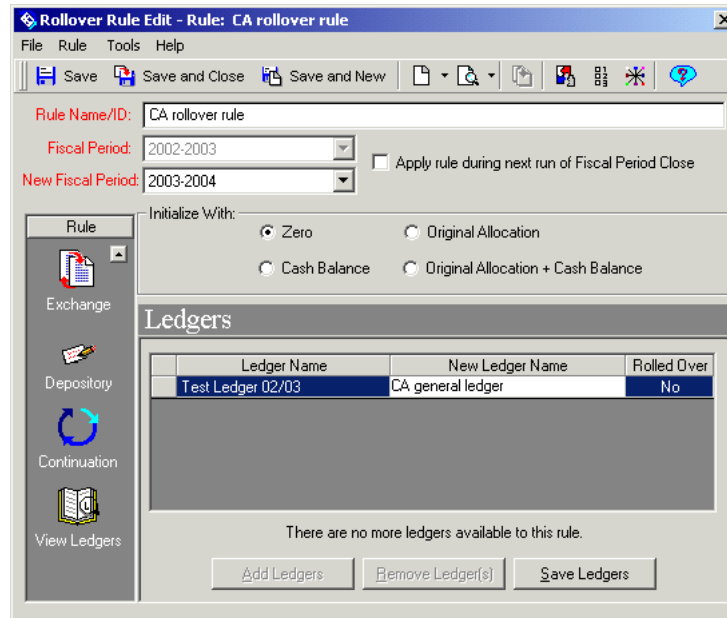

Figure 16-8. The new ledger name is typed into the column
3. Enter the new ledger name to be used for the new fiscal period in the **New Ledger Name** field (see Figure 16-8). Follow the same rules for entering a Ledger Name.